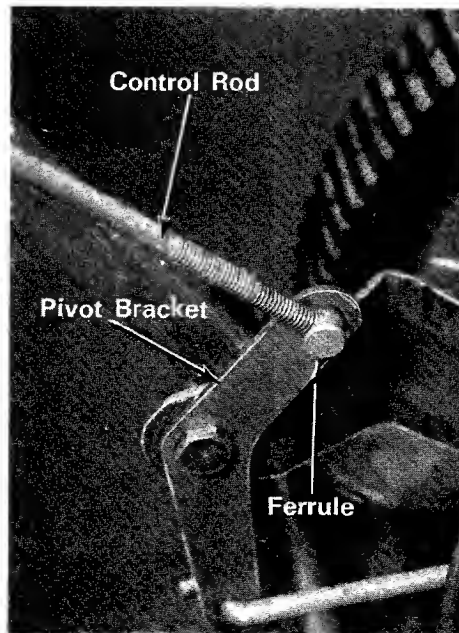

Figure 3
- 4 Place the ferrule, with the larger hole, into the pivot bracket on the left rear side of the mower and thread in the short (22 inch) control rod until the threads are even with the end of the ferrule. (See figure 3.)